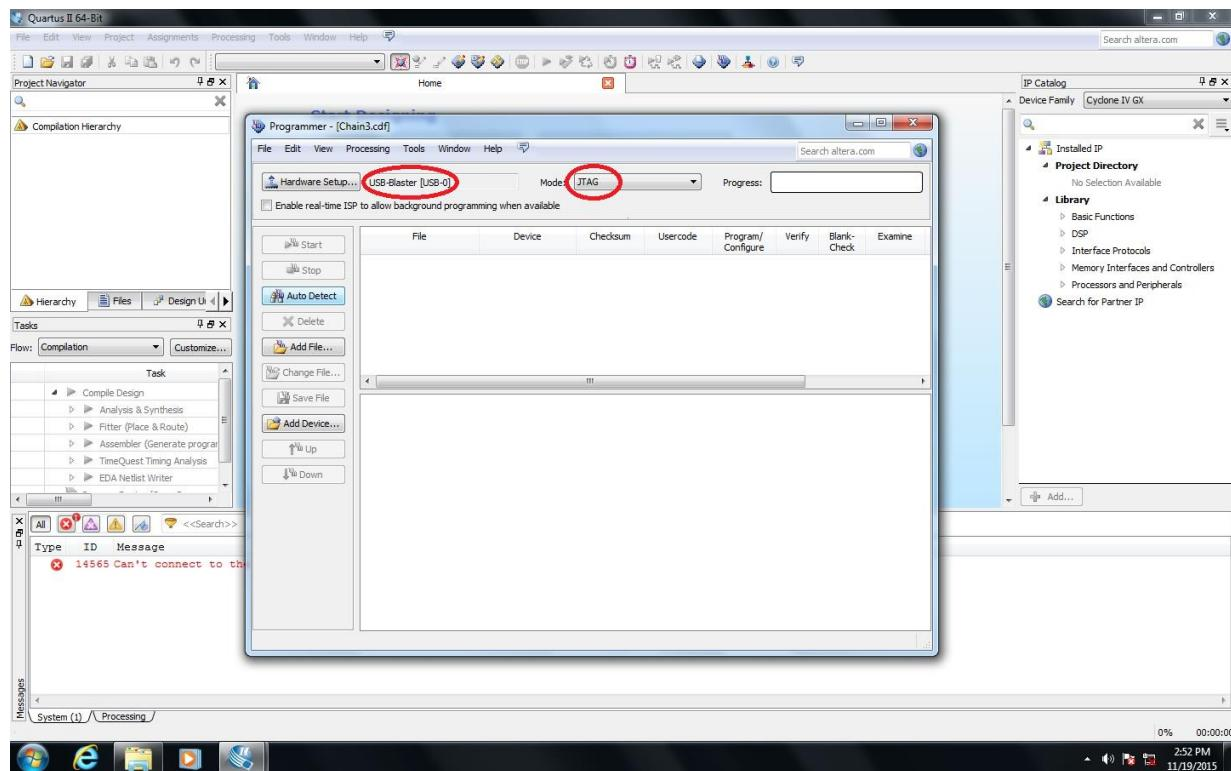

Figure 29: Quartus Programmer window
- Click on the *programmer* field which will open one more window that looks like figure 29. Verify whether the USB-Blaster is selected in the hardware setup. If USB-Blaster is not selected then select it. Also choose *Mode as JTAG*.
- Click on the *programmer* field which will open one more window that looks like figure 29. Verify whether the USB-Blaster is selected in the hardware setup. If USB-Blaster is not selected then select it. Also choose *Mode* as *JTAG*.